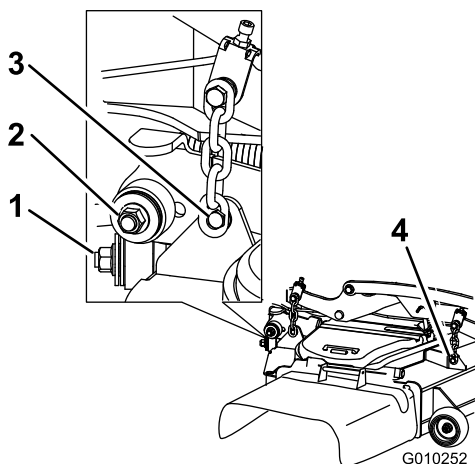

Figure 105
7. Remove and retain the hardware on both sides of the deck (Figure 105).